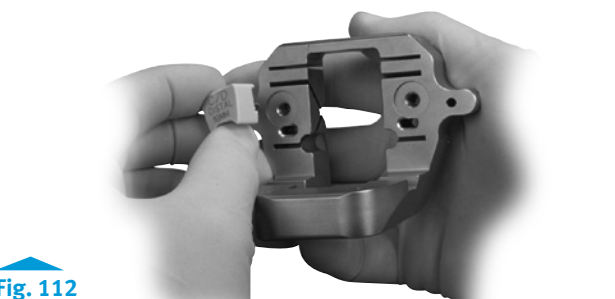

Fig. 112
- If Distal Femoral Augment Provisionals were used on the cutting block, remove and install them on the RH Knee Notch/Chamfer Guide (Fig. 112).